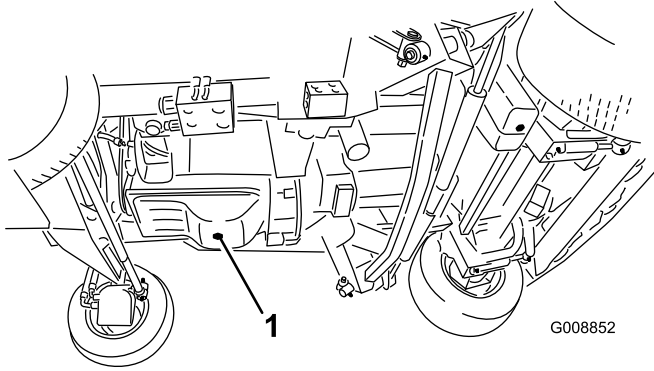

Figure 61
1. Remove the drain plug and let the oil flow into a drain pan (Figure 61).